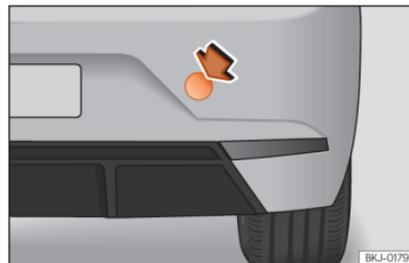

Fig. 49 On the right side of the rear bumper: remove the cover.
The housing of the screw towing eye is on the right side of the rear bumper behind a lid »» **Fig. 49**.
- Press the top right hand side of the cover »» Fig. 49 to unclip it.